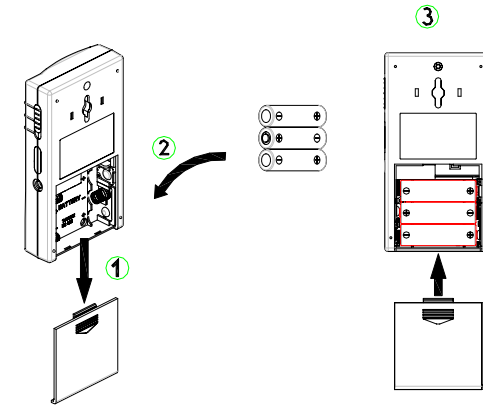

FIGURE 1
1. Open the battery cover. (FIGURE 1)